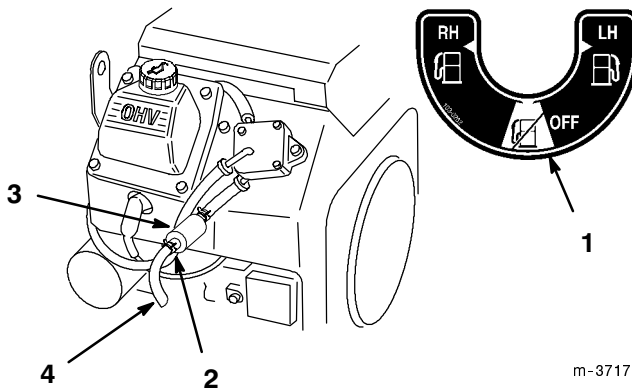

Figure 35
2. Close fuel shut-off valve (Fig. 35).
3. Loosen the hose clamp at the fuel filter and slide it up the fuel line away from the fuel filter (Fig. 35).
4. Pull the fuel line off fuel filter (Fig. 35). Open fuel shut-off valve and allow gasoline to drain into a gas can or drain pan.
5. Install the fuel line onto the fuel filter. Slide the hose clamp close to the fuel filter to secure the fuel line (Fig. 35).